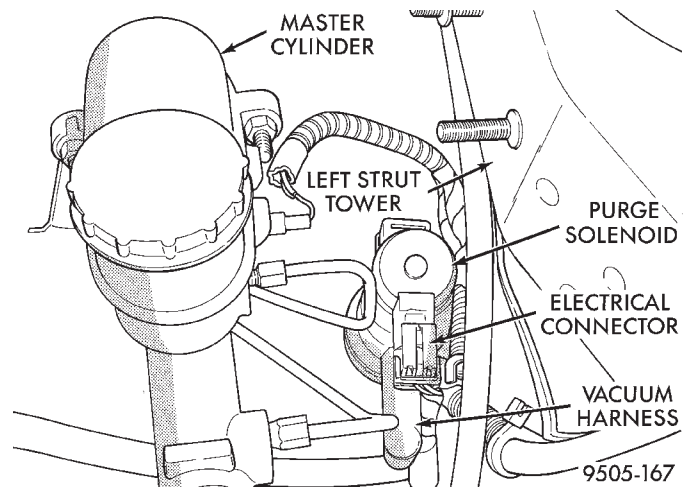

Fig. 56 Purge Control Solenoid
(4) Remove the vacuum harness connector and electrical connector from the purge solenoid (Fig. 56). Remove purge solenoid from vehicle.
(8) Install the purge control solenoid (Fig. 56) on the left front frame rail. Tighten the purge control solenoid mounting bolt.